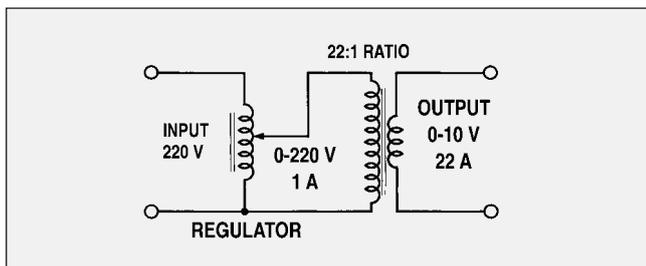

Fig. 46 - Variable low-voltage output
**Variable low-voltage output (Fig. 46)**
In the example shown, 1 ampere, 220 V regulator is used with a 22 : 1 step-down transformer to provide a variable output of 0-10 volts at 22 ampere rated current. The larger units or ganged assemblies can be used in this way to provide low-voltage output at very high current. In both the circuits of Figs. 46 and 47 fixed autotransformers may often be used instead of the double-wound transformers shown where isolation is unnecessary. This is more economical where the transformation ratio is not high. (Up to 2 : 1 typically).